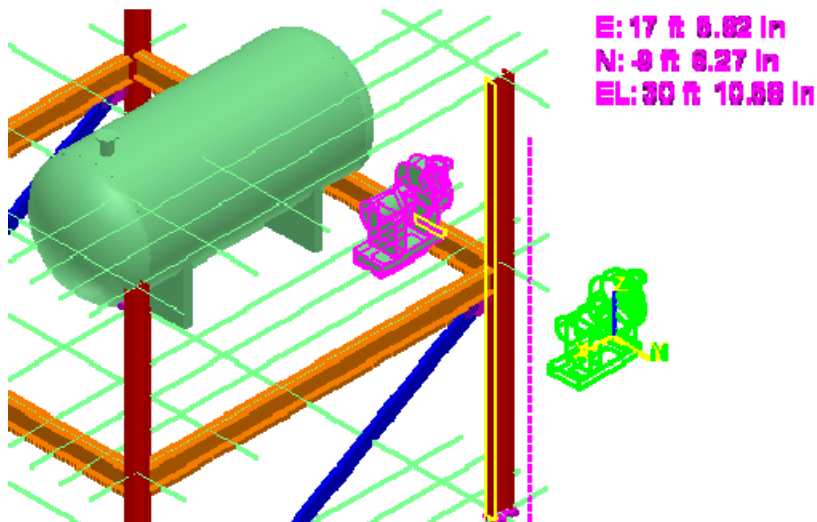

Figure 30: The Pump After Moving
10. Click on the pump to drag it to a different position, away from the tank as shown in Figure 30.